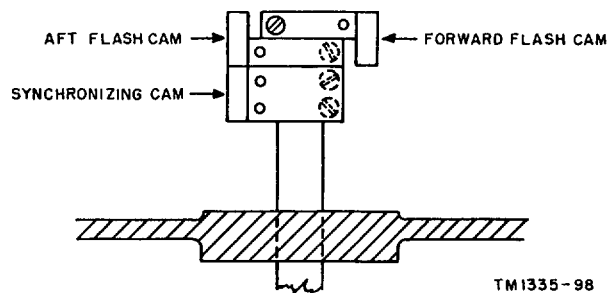

Figure 57. Location of heading flash cams.
- (5) Loosen the setscrews in the forward flash cam (fig. 57) in the antenna. Shift the cam in the proper direction to compensate for the error, and tighten the setscrew.